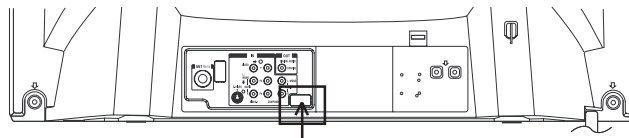

Fig. 1
2. Using the Serial Communication Change JIG (**JG198**), connect the set to personal computer. (**Refer to Fig. 1**)